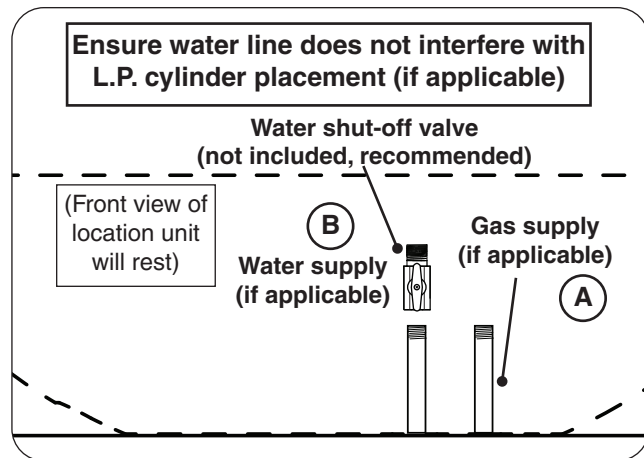

Fig. 25-1 Route gas and water supply (if applicable)
1. Ensure the gas supply is properly routed into the area that the unit will rest over (see Fig. 25-1, A).
1. Plumb the water supply into the area that the unit will rest over (see Fig. 25-1, B).
Note: It is recommended that a water shut-off valve (not included) be attached to the water supply line. It can be installed remotely or at the end of the water supply line. See Fig. 25-1, B for an example.